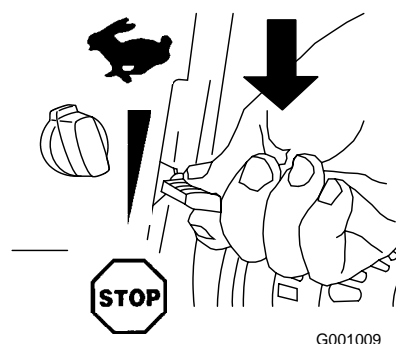

Figure 31
1. Move the throttle to the Stop position (Figure 31).